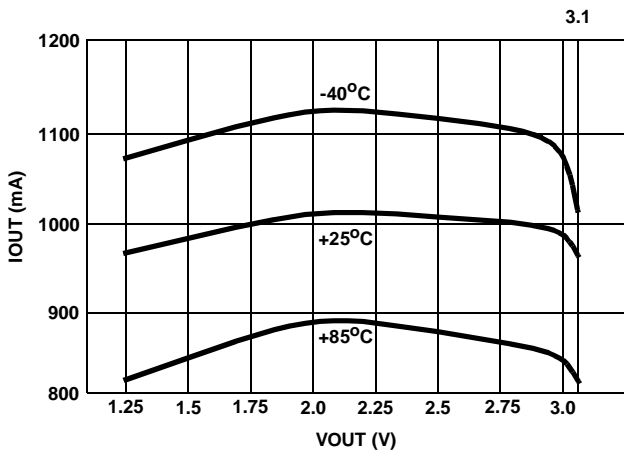
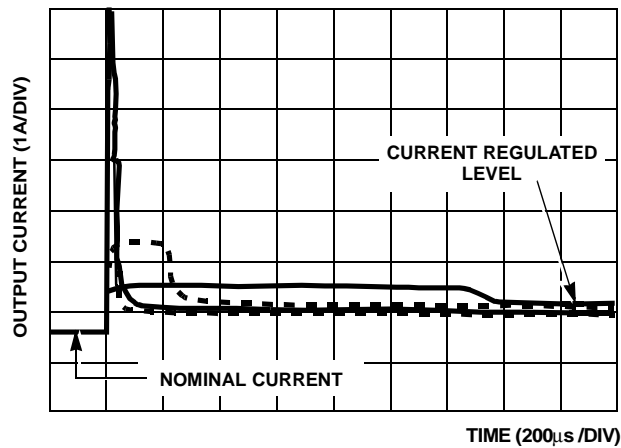
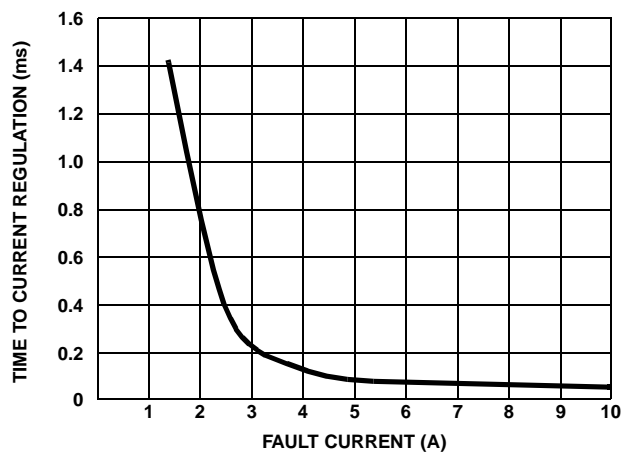

FIGURE 4. CURRENT REGULATION vs Vout (VIN = 3.3V)
FIGURE 6. OC TO CR SETTLING TIME WAVEFORMS
FIGURE 7. CR SETTLING TIME vs FAULT CURRENT
The ISL6119 has integrated current sensing on the power MOSFET that allows for rapid control of OC events. Once an OC is detected the ISL6119 goes into its current regulation (CR) control mode. The ISL6119 CR level is set to a nominal 1A. This current regulation is  $\pm 25\%$  over the full operating temperature and voltage bias range. See Figures 4 and 5 for illustrative curves. The speed of this control is inversely related to the magnitude of the OC fault. Thus a hard over current is more quickly controlled than a marginal OC condition. See Figure 6 for waveforms illustrating this and Figure 7 for an accompanying graph.